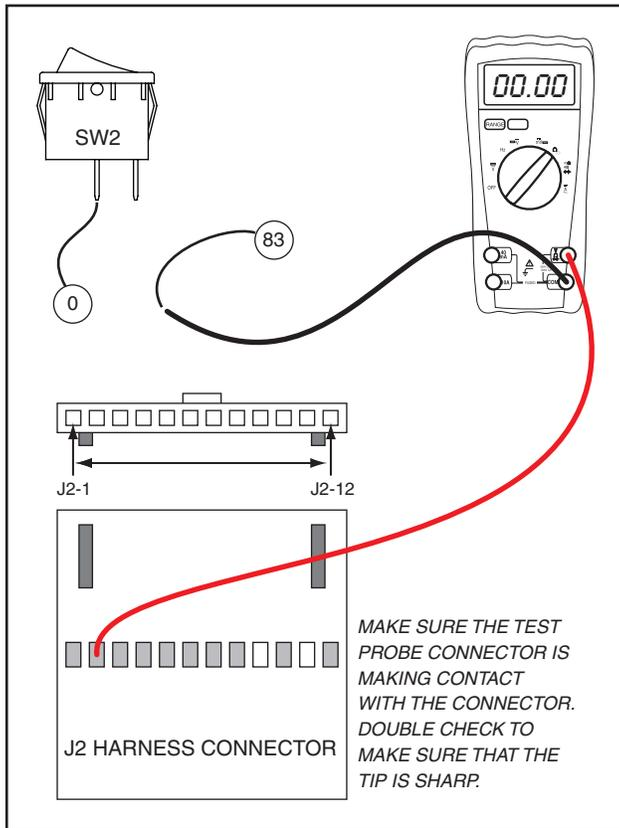

Figure 6-60. – Check Idle Control Wiring
5. Connect one meter test lead to Wire 83 previously removed from SW2. Connect the other meter test lead to pin location J2-2 on the J2 connector. See Figure 6-60. Be careful not to damage the pin connectors with the test leads. CONTINUITY should be measured. If CONTINUITY is not measured repair or replace Wire 83 between the J2 connector and Terminal Block or between the Terminal Block and SW2.